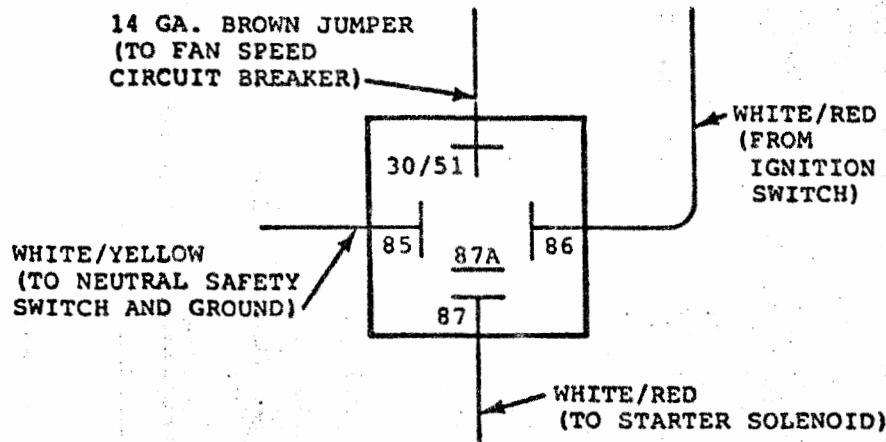

FIGURE 2
4. Disconnect the white/red wire (which had the pigtail jumper removed in Step 3) from terminal #30/51 and connect to terminal #86 (Figure 2).
5. Using 14 gage brown wire, assemble a 12 inch jumper wire with two (2) suitable female receptacles.
6. Connect one end of the brown jumper to terminal #30/51 of the starter relay (Figure 2). Connect the other terminal with the locking barb to the battery side of the 25 AMP from speed circuit breaker.